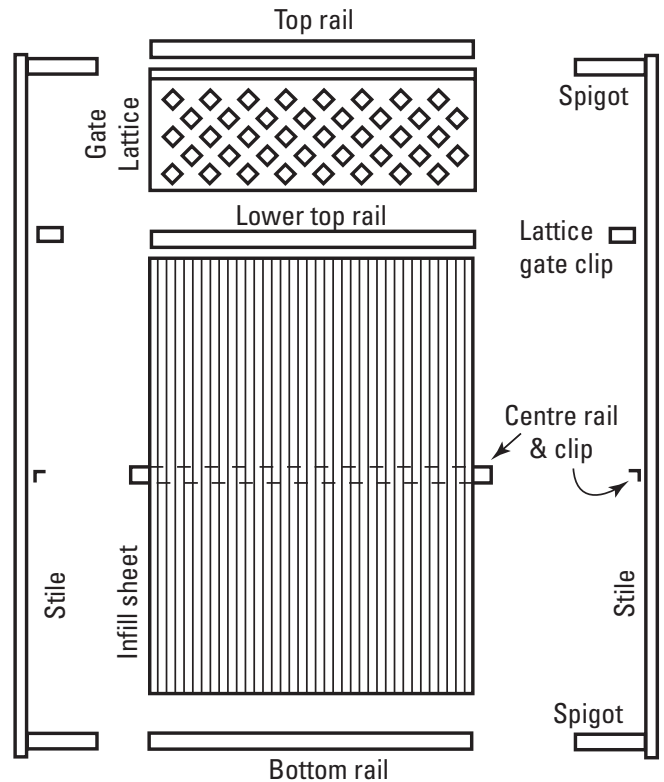

Figure 22.1
2. Lay out all the components (Figure 22.1) on some soft material to protect the COLORBOND® steel finish.